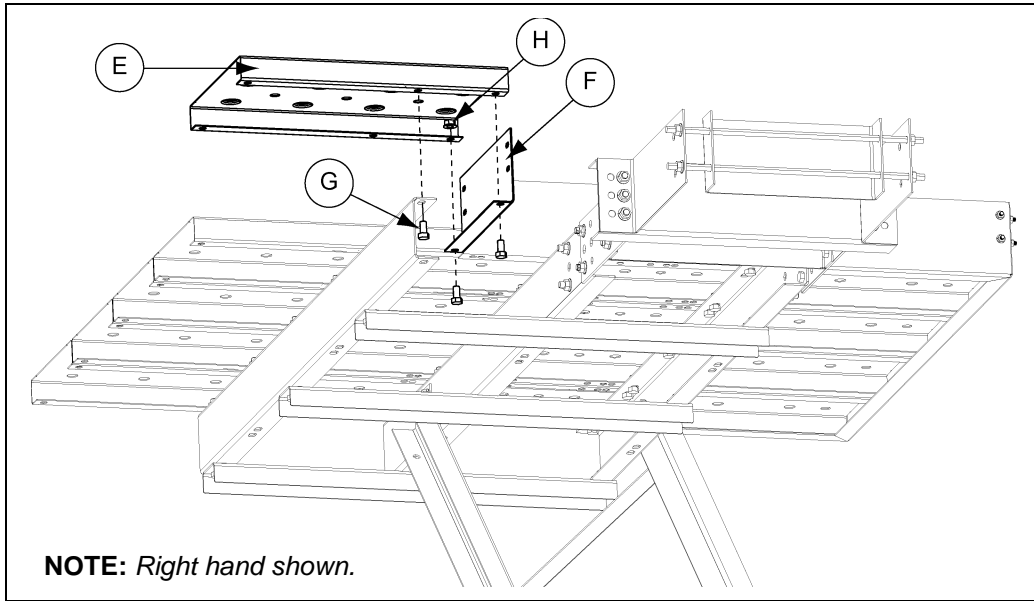

Figure 10I
4. Align flange of end toe board along the bottom of decking. Connect end toe board to decking using 1/2" x 1" bolts and nuts. (See Figure 10I on Page 82.)